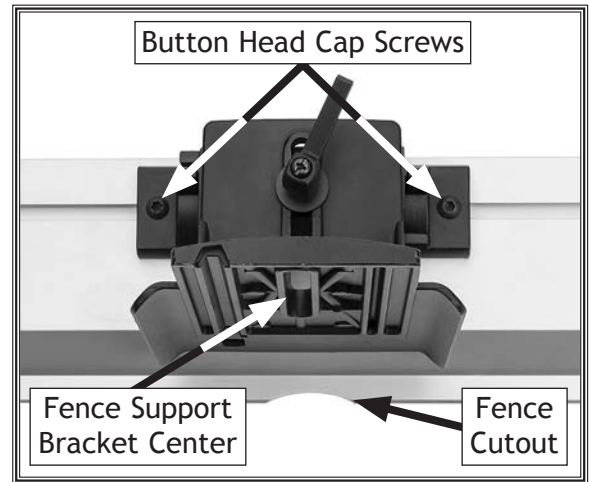

Figure 12. Fence cutout aligned with center of fence slide bracket.
- Align fence cutout with center of fence slide bracket, and tighten (2) button head cap screws installed in Step 2 (see Figure 12).